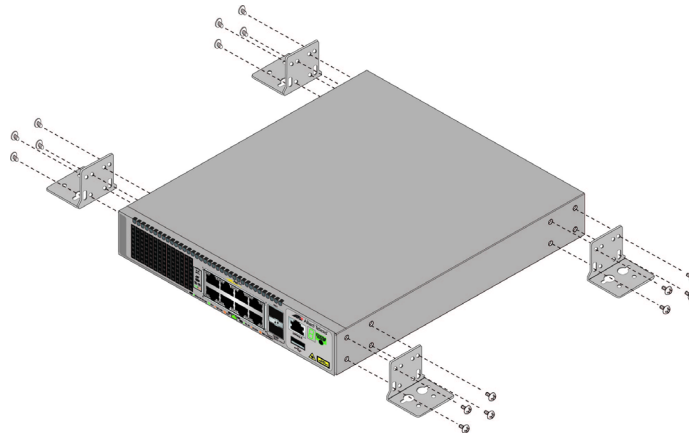

Figure 56. Attaching Wall Brackets to the x530L-10GHXm
3. For the x530L-10GHXm Switch, attach the four BRKT-J24 wall brackets with sixteen screws to the sides of the switch as shown in Figure 56.